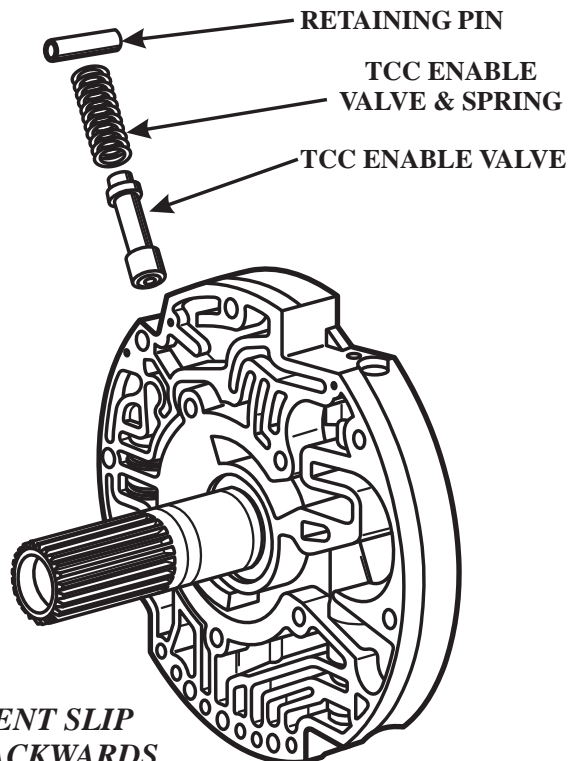

Figure 136
- Make certain the TCC Enable Valve in the pump cover is installed correctly and is free, (Refer to Figure 136).